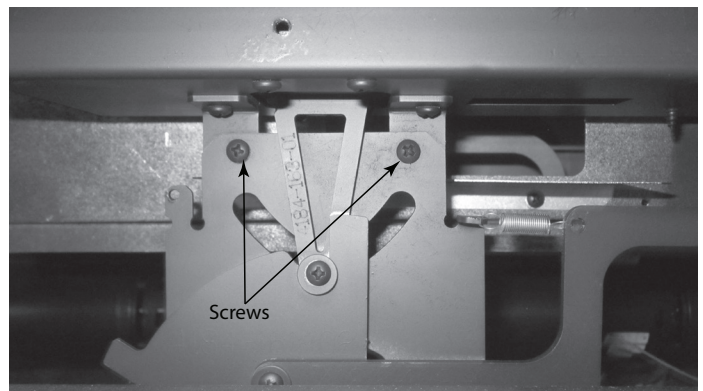

Figure 4.35 Screw Timer to Air Chamber
12. Screw the timer to the air chamber. See Figure 4.35.